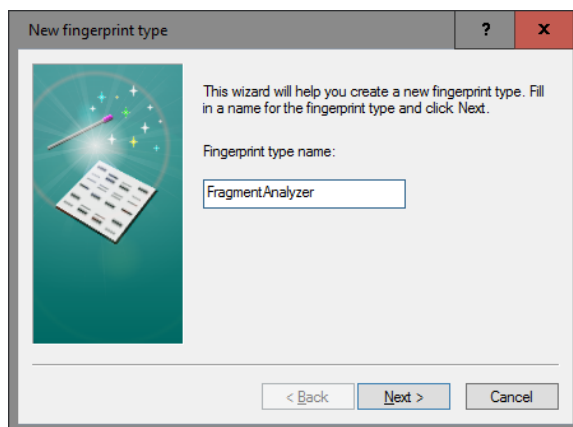

Figure 2.2: Specify a name.
- 2.2 Press **<OK>**, enter a name, for example “FragmentAnalyzer” and press **<Next>** (see Figure 2.2).